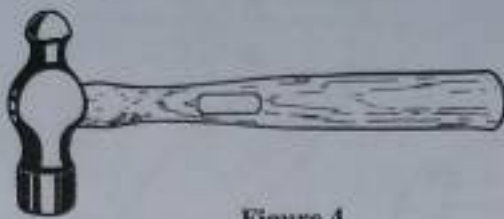

Figure 4
- (c) By freehand sketching, draw the tool in Figure 4.